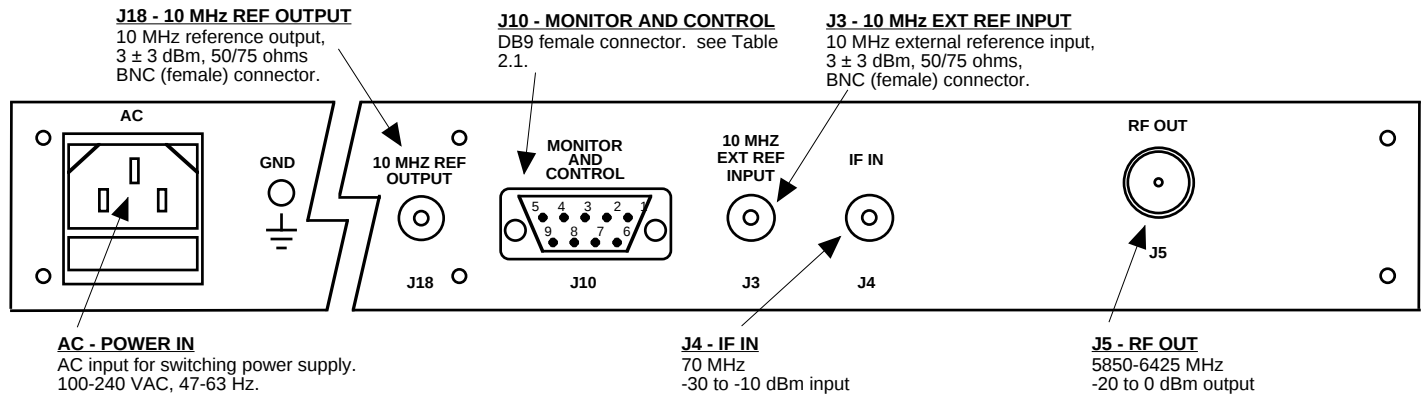

FIGURE 2.2 2015-58 Rear Panel Inputs and Outputs
2.2 Rear Panel Input / Output Signals - Figure 2.2 shows the input and output connectors on the rear panel.
1. Connect a -30 dBm to -10 dBm, 70 MHz signal to IF IN, J4 (Figure 2.2)
Alarm indications appear on the LEDs (see figure 2.2).